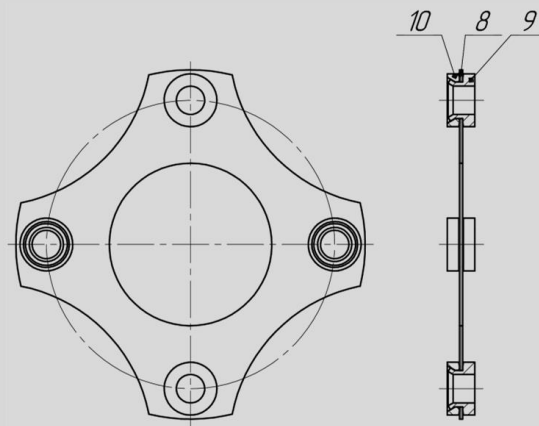

Figure 2
3.1.7. Each plate pack unit (**Fig. 2**) comprises plate pack **8**, bushings **9** and washers **10**. The elements are joined by pressing. The plate pack unit is interchangeable and can be supplied as a spare part for the coupling repair.
- Replace nuts with nylostop nuts **6** included in complete set of delivery. First, tight the nuts tentatively, and then tight them until stop with torque quoted in **Table 3**. To avoid the package splitting, the state of plates (flexible elements) **8 (Fig. 2)** must be controlled. In case when splitting occurs it is necessary to weaken nuts tightening until the shape of the plate (element) and continuity of the package are fully restored. After that the tightening process should be started over.
- Examine the peripheral plates (flexible elements) state in packs **8 (Fig. 2)**.